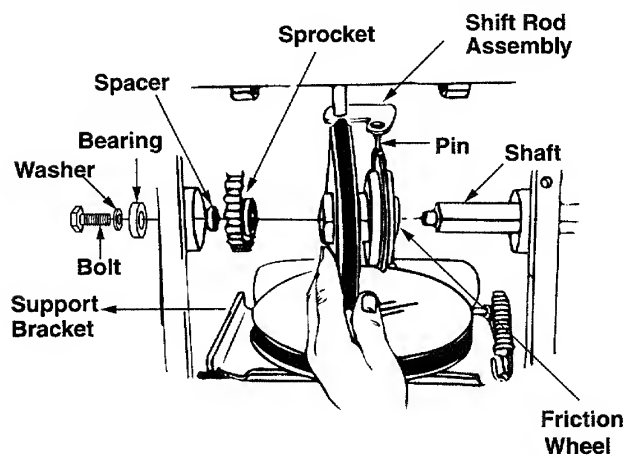

Figure 28
- Sliding the shaft to the right, remove the spacer, the sprocket and the friction wheel assembly from the shaft. See Figure 28.
- Position the friction wheel assembly up onto the pin of the shift rod assembly and slide the shaft through the friction wheel. See Figure 28.
with the bell washer and hex bolt. See Figure 28.